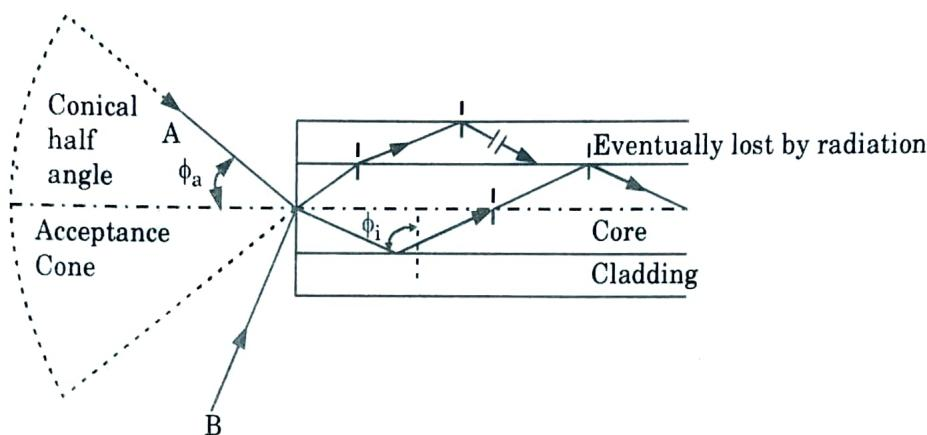

Fig. 1.6.1. The acceptance angle θ_a when launching light into an optical fiber.
1. The geometry concerned with launching a light ray into an optical fiber is shown in Fig. 1.6.1.
4. In the Fig. 1.6.1, it is observed that incident ray B at an angle greater than θ_a is refracted into the cladding and eventually lost by radiation.